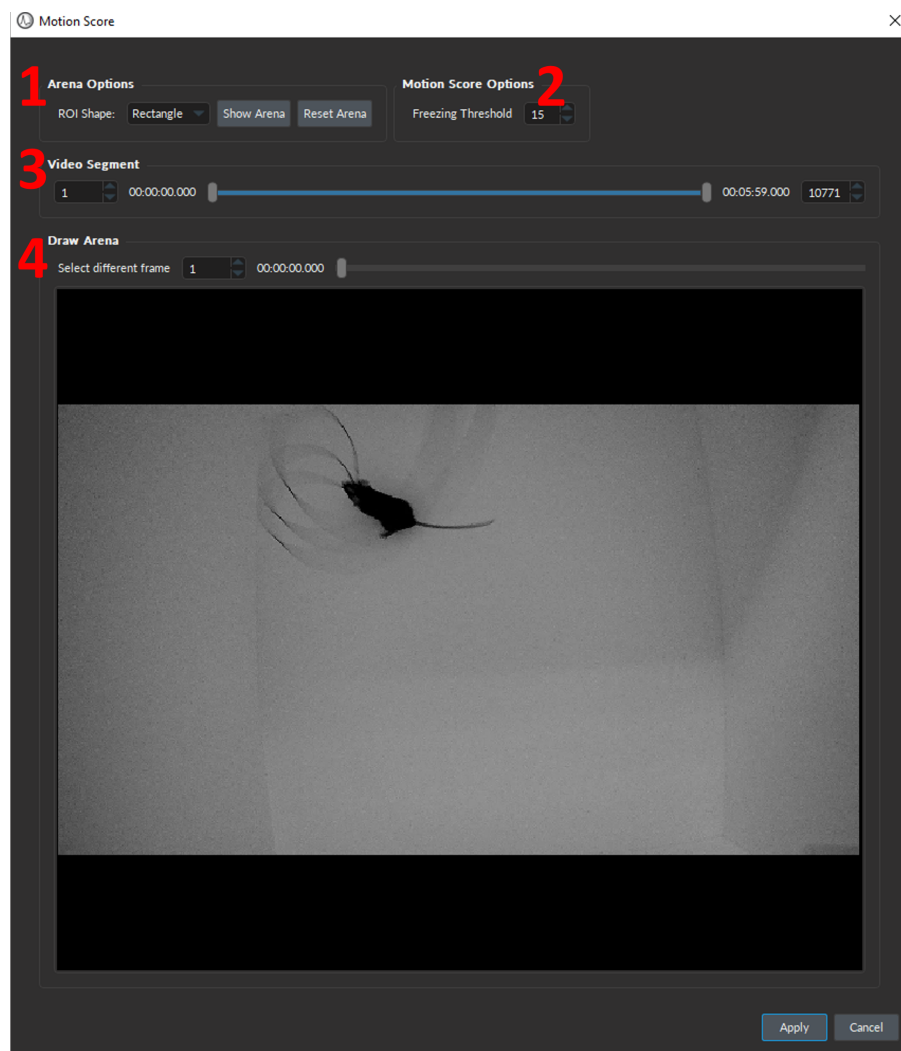

Figure 14.12: *Motion Score window*
1. The **Arena Options** (Fig. 14.12, 1) allows users to draw a shape on a still frame of the video to define the part of the image that corresponds to the animal arena. If no arena is defined, the entire image will be set as the arena. To define the arena area use the following parameters:
2. The **Motion Score Options** (Fig. 14.12, 2) defines the **Freezing Threshold** pixel value. This value must be between 0 and 255. This is a relative value indicating the value count change that is interpreted as movement.
3. The **Video Segment** sliding scale (Fig. 14.12, 3) is used to define a time window within the video where the **Animal Tracking** algorithm will be applied. **This feature is useful to test the parameters on small video increments at a time to verify whether those parameters are satisfactory.** Users can define the time window using either by specifying a starting and ending frame or by using the two sliding scale pointers.
4. The **Draw Arena** (Fig. 14.12, 4) displays a still frame of the video where the user will define the arena which will be the input to the **Motion Score** algorithm.